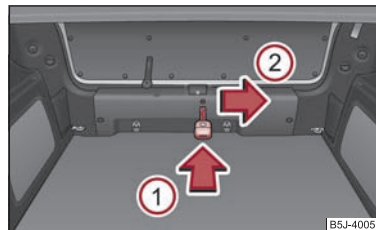

Fig. 30 Emergency unlocking of the boot lid
- Move the operating lever with the aid of a narrow object, e.g. a screwdriver, up to the stop in the direction of arrow ① ⇒ page 40, fig. 30 and then unlock in the direction of arrow ②.